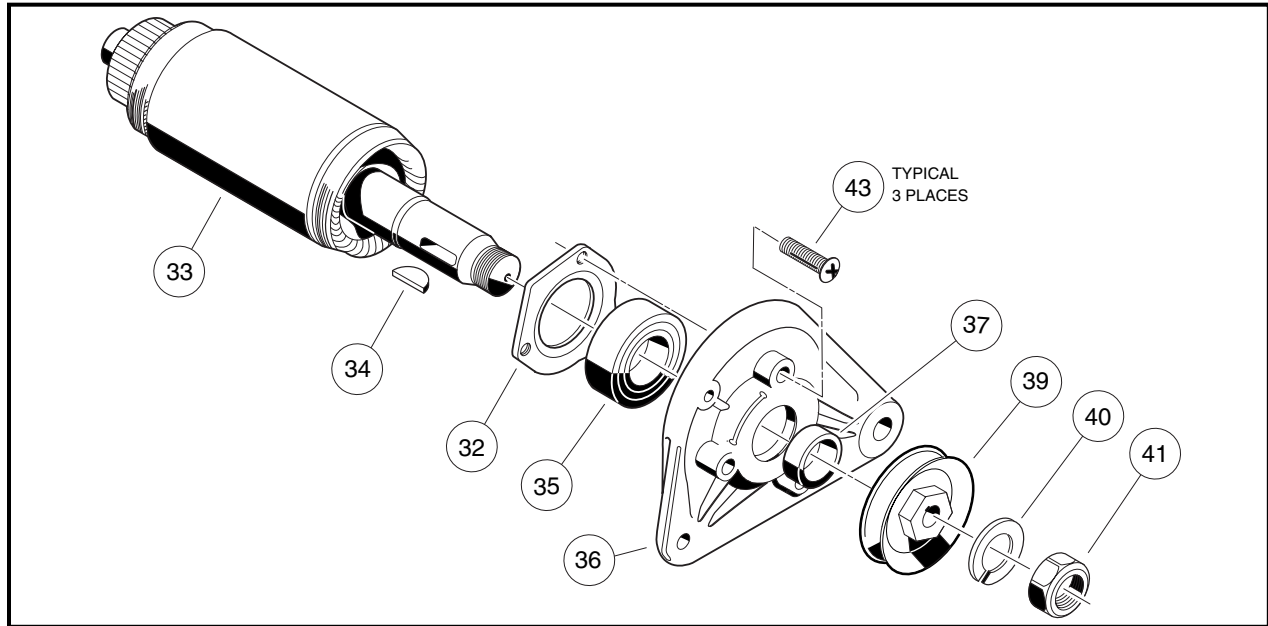

Figure 12-8 Armature and Output End Cover Assembly
2. Remove nut (41), lock washer (40), pulley (39), shaft key (34), spacer (37), and bearing retainer screws (43) and separate armature (33) from output end cover (36) (**Figure 12-8, Page 12-5**).
3. Slide the bearing retainer (32) off of the output end of the shaft (**Figure 12-8, Page 12-5**).
4. Slide the bearing retainer onto the output end of the armature shaft (33) so that it will hold only the outside of the bearing (35) (**Figure 12-8, Page 12-5**).
5. Press a new ball bearing (35) onto the output end of the armature. Press a new ball bearing onto the commutator end of the armature shaft. **See following CAUTION.**
6. Install the output end cover (36) onto the armature. Secure the bearing retainer (32) to the cover and tighten the screws (43) to 39 in-lb (4.4 N·m) (**Figure 12-8, Page 12-5**).
11. Slide the spacer (37) onto the end of the shaft. Insert the shaft key (34) into the shaft. Install the belt pulley (39) onto the shaft, and install the lock washer (40) and M14 nut (41) and tighten the nut to 28 ft-lb (38 N·m) (**Figure 12-8, Page 12-5**).